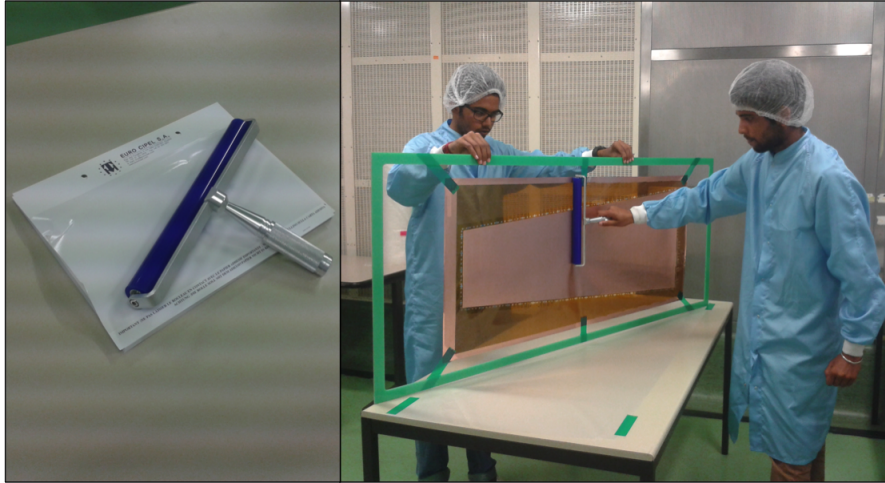

Figure 2.2: Cleaning of the GEM foil with an anti-static roll to remove the dust.
2. Clean the foils with a dedicated anti-static and dust remover roll (see Fig. 2.2) in order to remove any possible dust particle deposited on the foils during the delivery and the fixation on the frame (e.g. "Particles Cleaning Roller" by Euro Cipel).